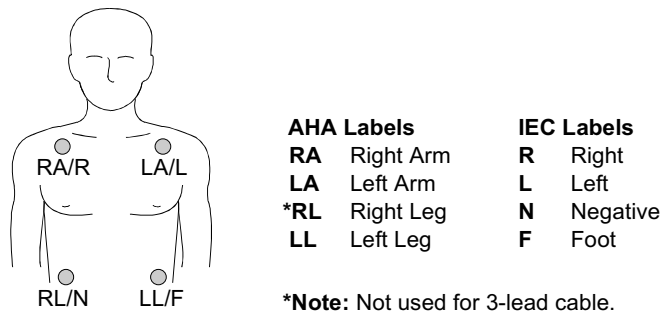

Figure 3-3 Limb Lead Electrode Placement
- 3 Identify the appropriate electrode sites on the patient as shown in Figure 3-3.